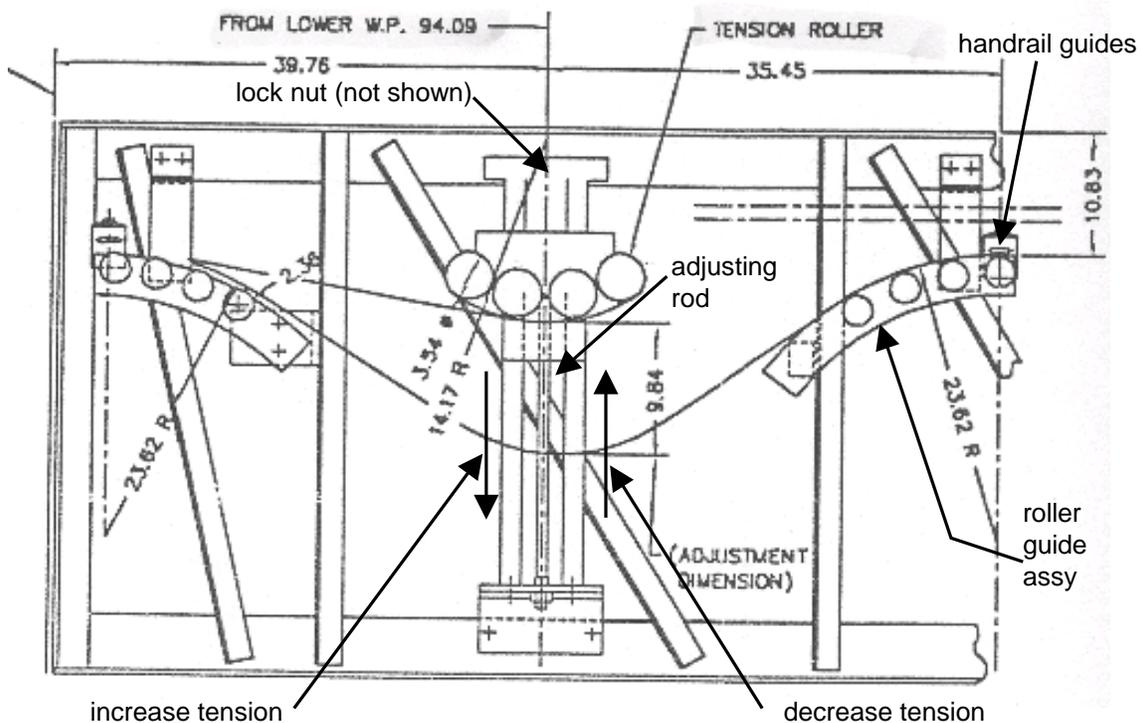

Figure 8-4 Fujitec Handrail Tension Device
- Improper handrail tension. Check handrail tension rollers (figure 8-4) and all hardware for wear and proper operation. Replace worn parts. Inform your Foreworker the need to replace handrail.
- Check and adjust take-up device of a Fujitec escalator (figure 8-4 below) if handrail lags behind the step.